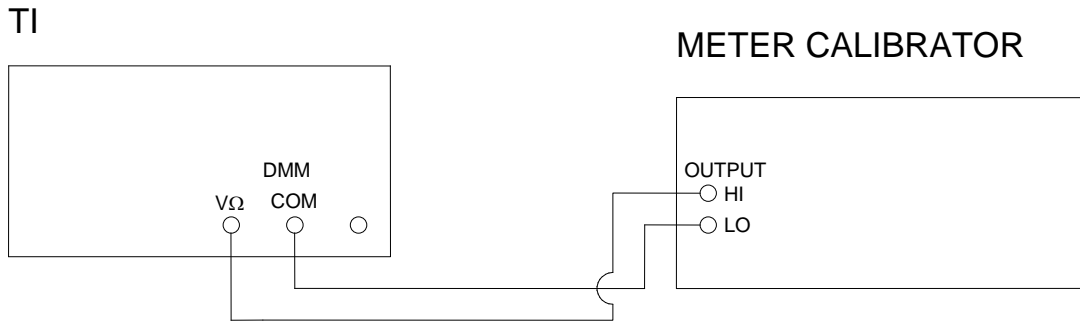

Figure 5.
4.11.1.1 Connect equipment as shown in Figure 5.